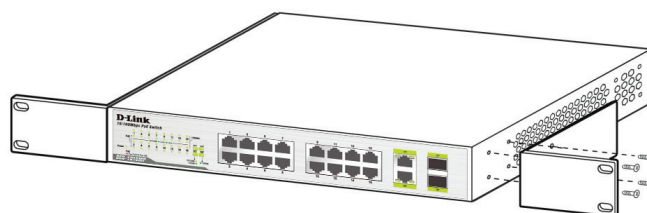

Figure 3. Mounting Brackets
1. Attach the mounting brackets to each side of the chassis as shown in **Figure 3** and secure them with the screws provided.